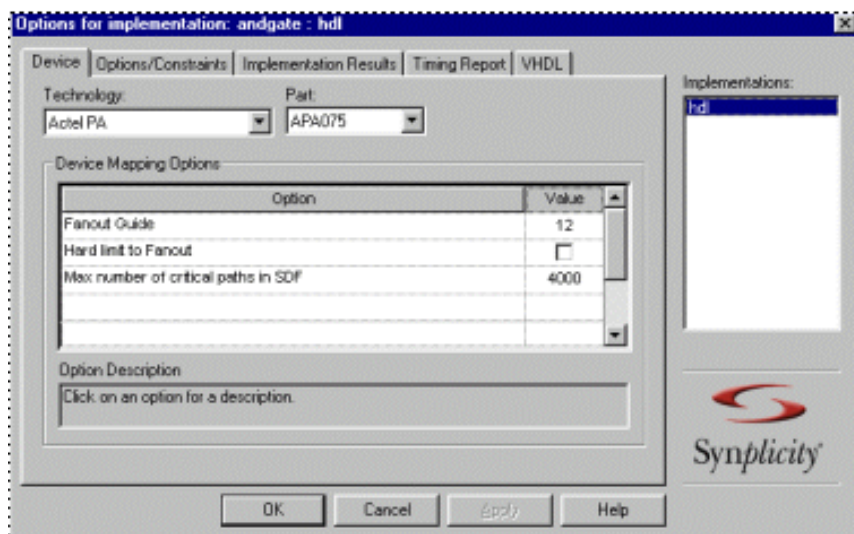

Figure 5-17. Options for Implementation Dialog Box
2. From the **Project** menu, select *Implementation Options*. The Options for Implementation dialog box is displayed, as shown in Figure 5-17.